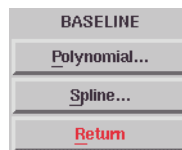

Figure 6-15 Selecting the method.
3. **Select the desired method.** There are two methods Xepr uses to correct the baseline: **Polynomial** and **Spline**. **Polynomial** uses zeroth to 9th order polynomial functions to simulate the baseline. We shall use the most commonly used method, polynomial functions. (See Figure 6-15.)